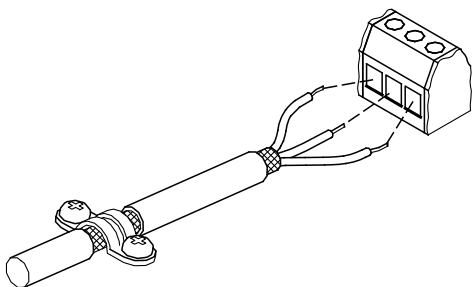

Fig. 14 Stripped cable with screen and wire connections
- Connect the screens of the cables to frame at both ends with good connection. The screens must be as close as possible to the terminals. See fig. 14.